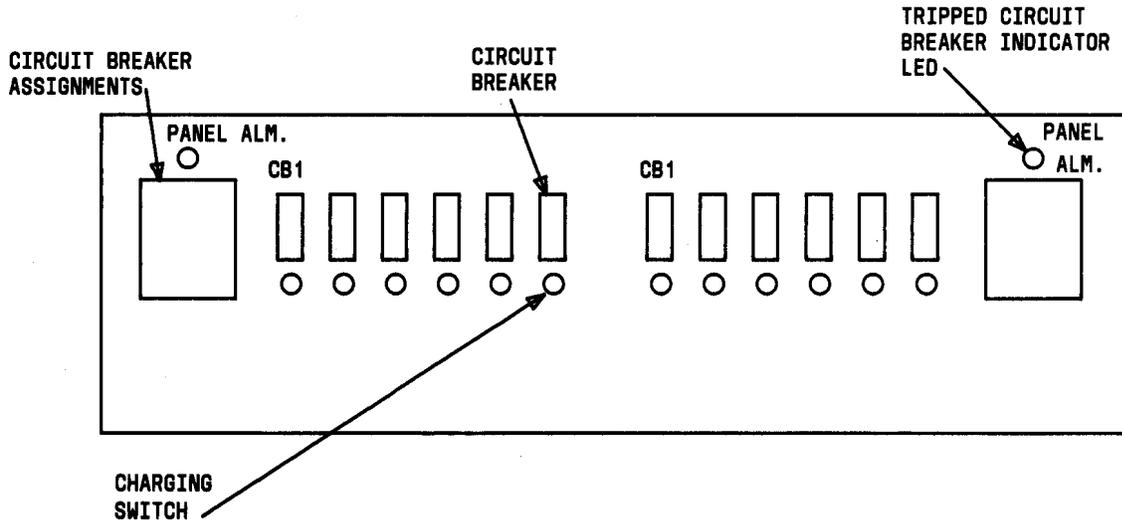

Fig. 3—Circuit Breaker Panel Assembly
2.04 The power distributing frame may be equipped with one or two circuit breaker panels. Refer to Table B for a complete list of controls and indicators. Each panel (see Fig. 3) has positions for 12 circuit breakers, and is fed by two -48 volt battery supplies, one for each group of six circuit breakers. The -48 volt return or ground is made at the ground bus bar assembly at the top of the frame. Each circuit breaker panel contains two alarm indication LEDs, one for each group of six circuit breakers.